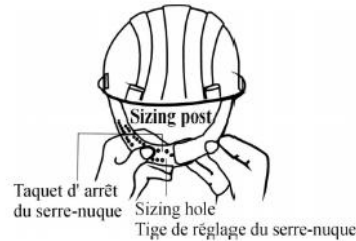

Figure 2
- Adjust the sizing post of the headband according to the size of your head (Figure2) until you feel comfortable and snug.